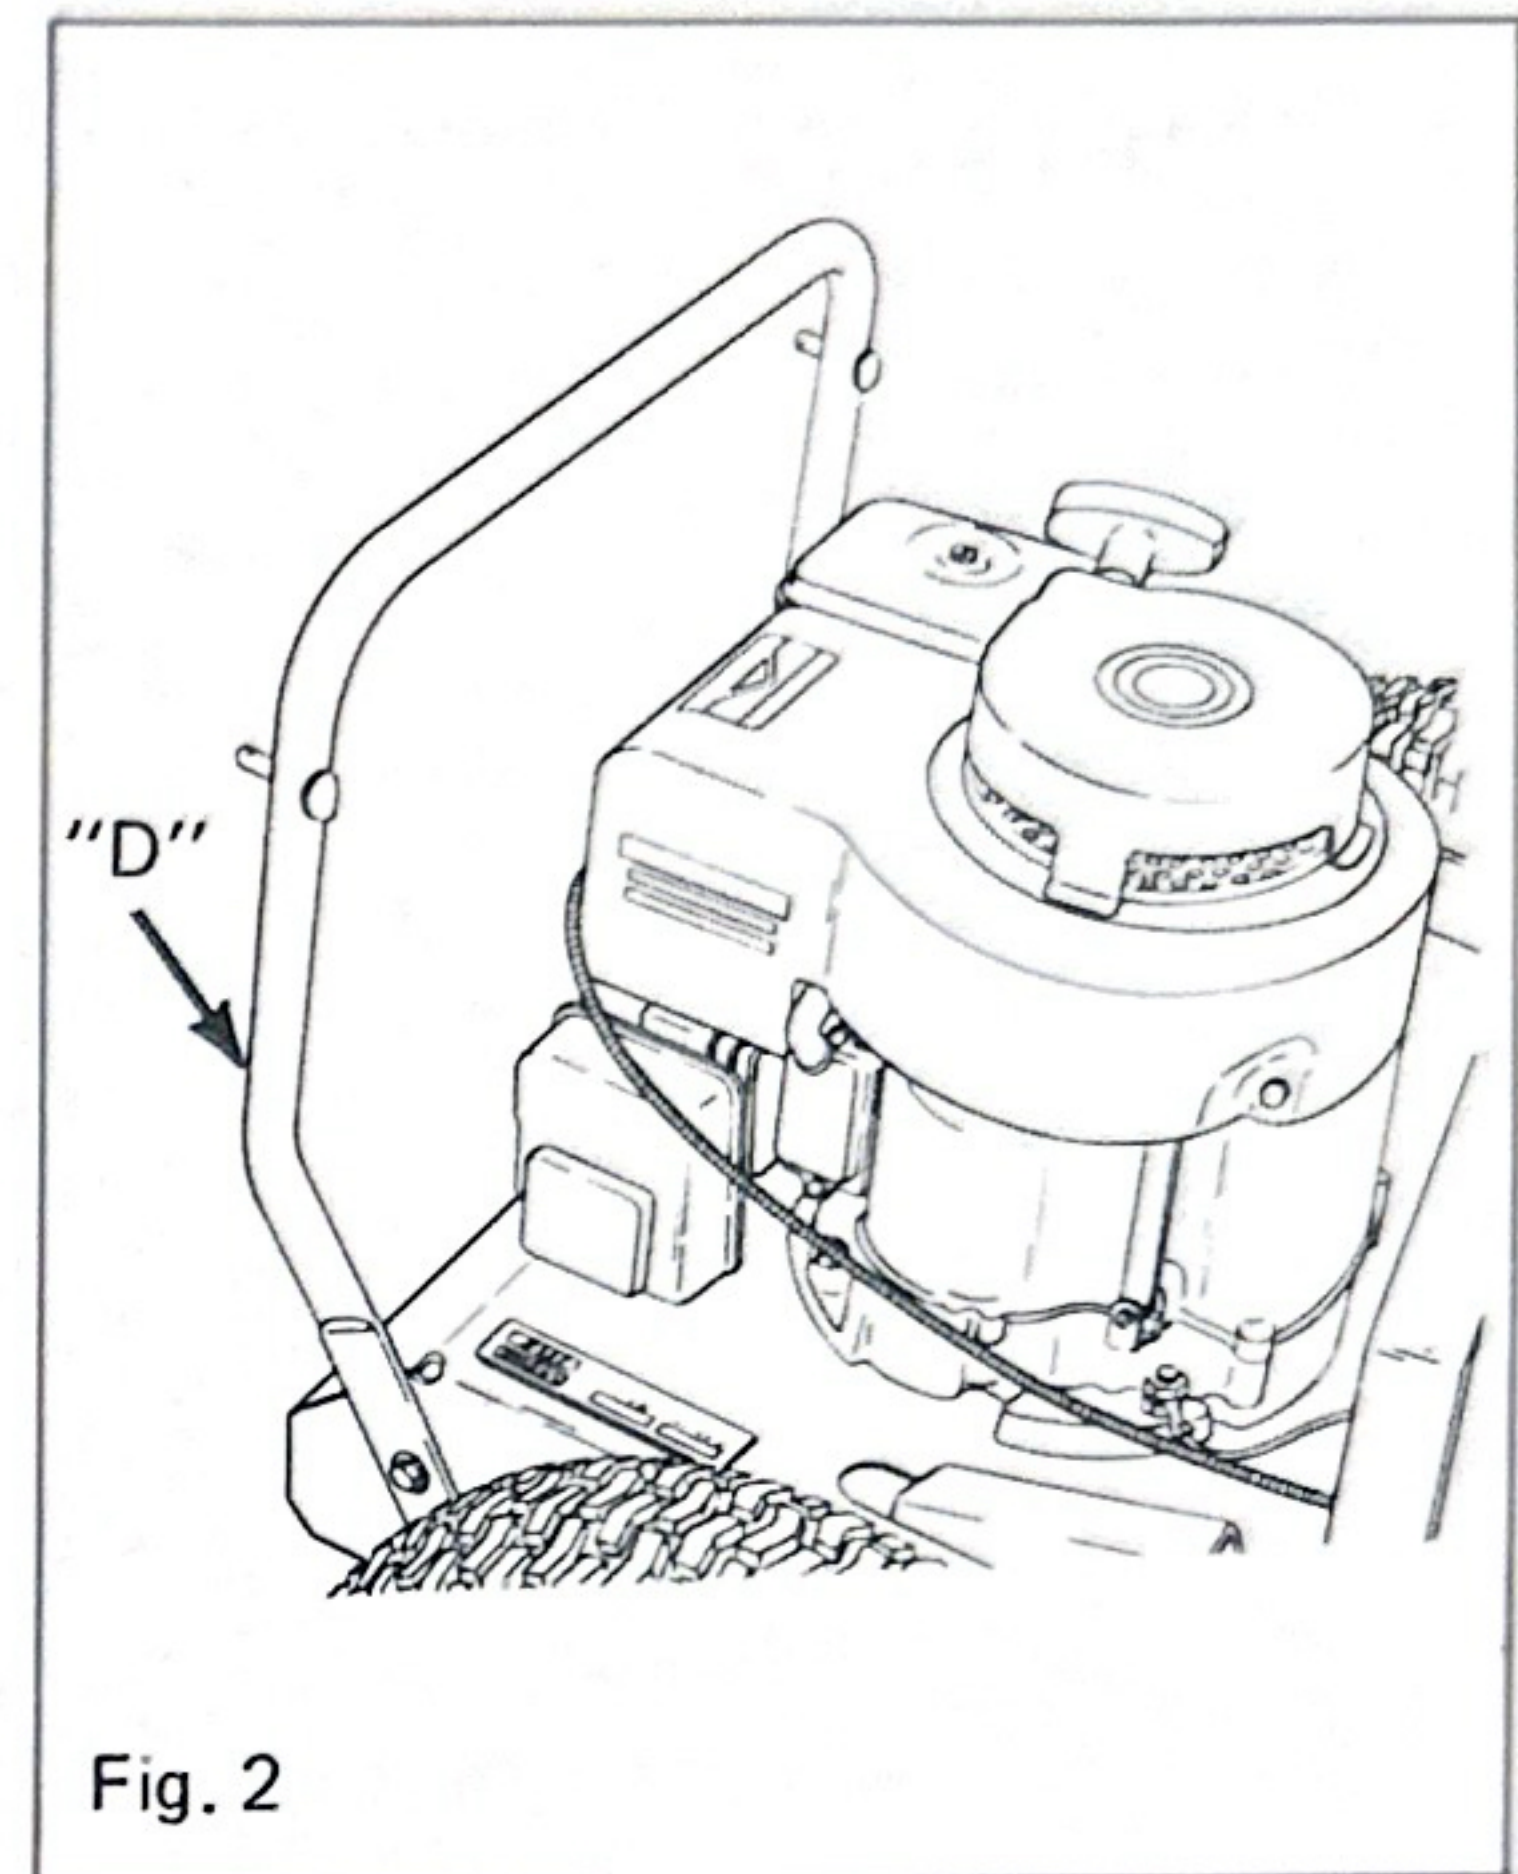

Fig. 2
4. Position frame assembly (D) Fig. 2 over the set of frame holes and secure with four 3/8-16 x 3/4 screws and nuts supplied.